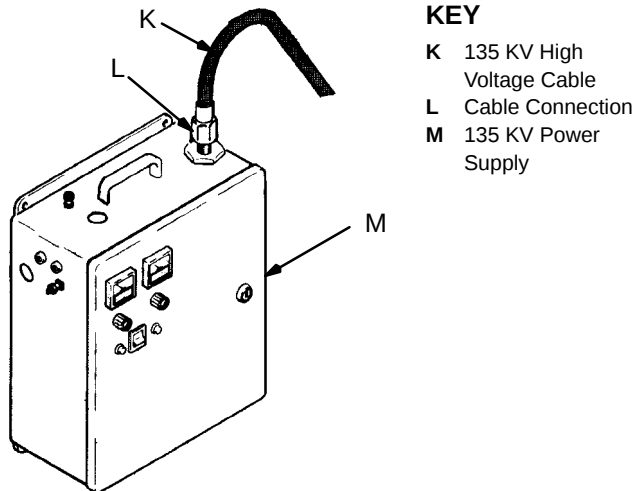

Fig 5
Be sure the high voltage power supply is OFF. Connect the high voltage cable (K) to the atomizer's resistor tube. Route the cable from the atomizer to the power supply (M). Connect the cable to the power supply's cable connection (L). See Fig 5.